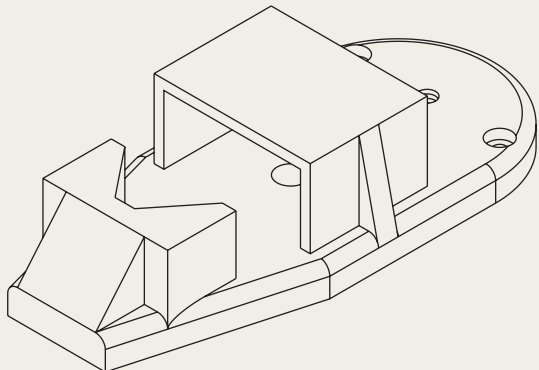
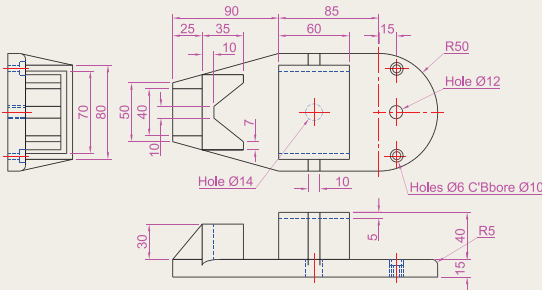

Fig. 7.30 Exercises 8 and 9 – an isometric drawing of the component for the two exercises
Fig. 7.31 Exercises 8 and 9
- 8. Construct a third angle projection of the component shown in the isometric drawing in Fig. 7.30 and the three-view first angle projection shown in Fig. 7.31.
- 9. Construct the isometric drawing shown in Fig. 7.30, working to the dimensions given in Fig. 7.31.